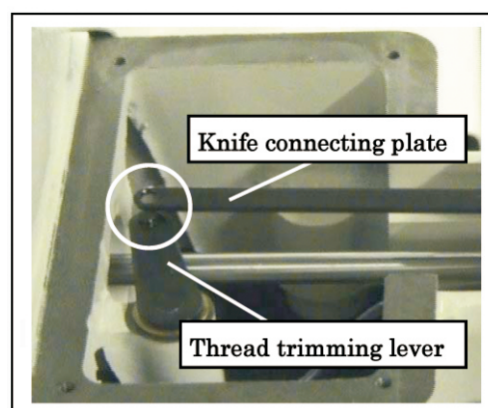

Fig.2
4. Remove the knife connecting plate from the thread trimming lever pin. Move it slightly toward you.(Fig. 2)